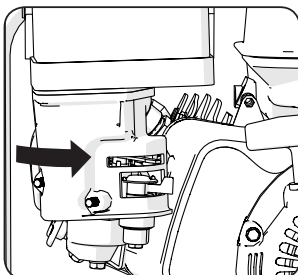

Fig 15
- Usually the choke can be returned to the 'off' position almost immediately when the engine fires up, but this will depend upon ambient temperatures, operating conditions etc and operators discretion will be required. **(Fig. 15)**